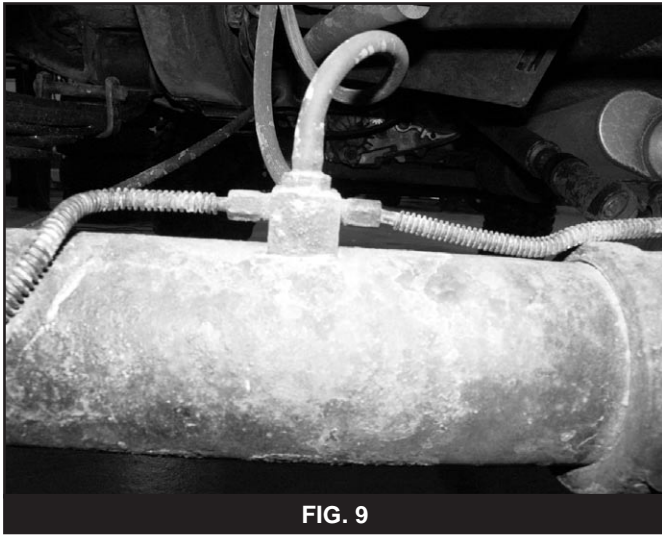

FIG. 9
64. Unbolt brake line junction block from axle. Retain bolts. (Fig 9)